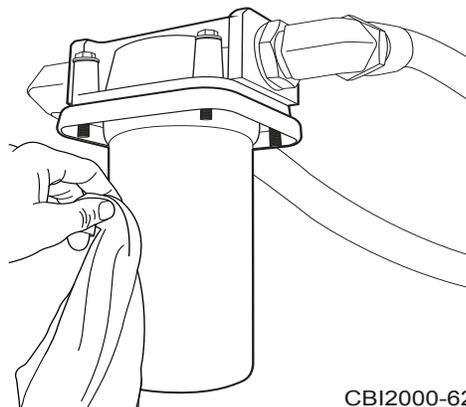

Figure 6.56 - Clean Filter Housing
3. Clean Filter Housing - Thoroughly clean the outside of the filter housing to ensure no contaminants enter the system when performing service (Figure 6.56).